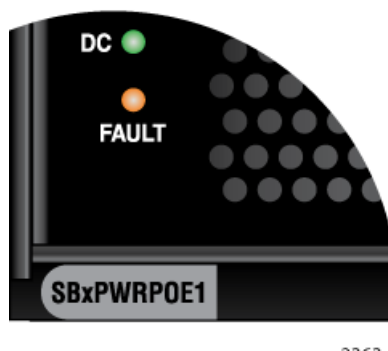

Figure 51. Verifying the AT-SBxPWRPOE1 PoE Power Supply
4. Check the model name, shown in Figure 51, to verify the module.